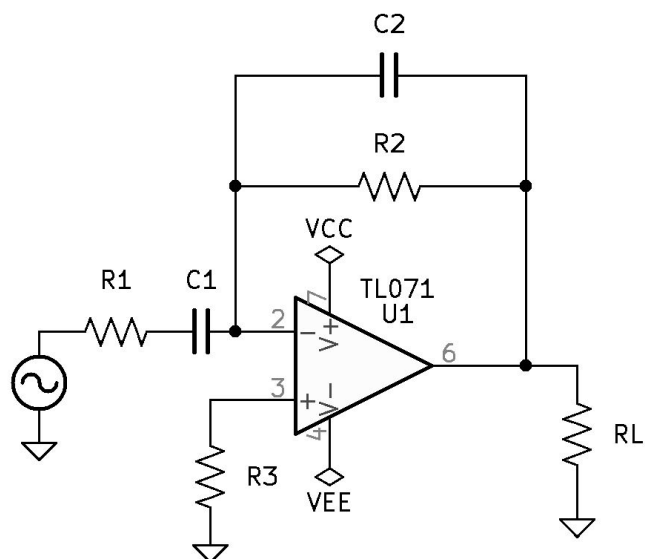

Figure 8.5: Band-Pass First-Order Active Filtering Circuit.
1. See Figure 8.5 *Band-Pass First-Order Active Filtering Circuit* on page 71.